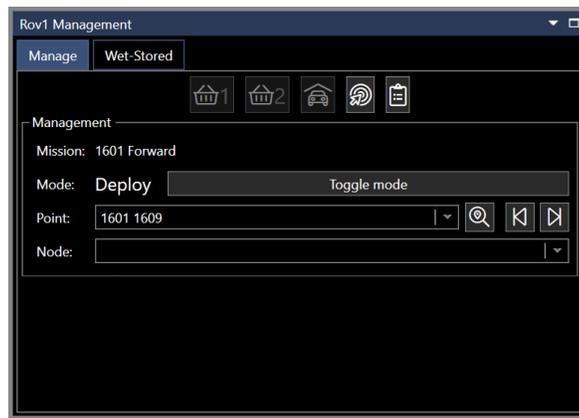

FIGURE 55 ROV MANAGEMENT WINDOW – MANAGE TAB
2. The drop-down button provides a list of available ROV's in the project. Click on the ROV to view in the ROV Management Window, see Figure 55.